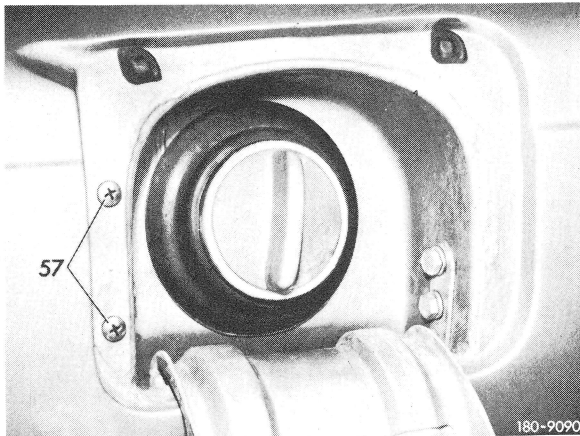

Fig. 1
- 1** Unscrew both oval head screws (57) on tank filler neck (Fig. 1).
- 11** Screw both oval head screws (57) to tank filler neck (Fig. 1).